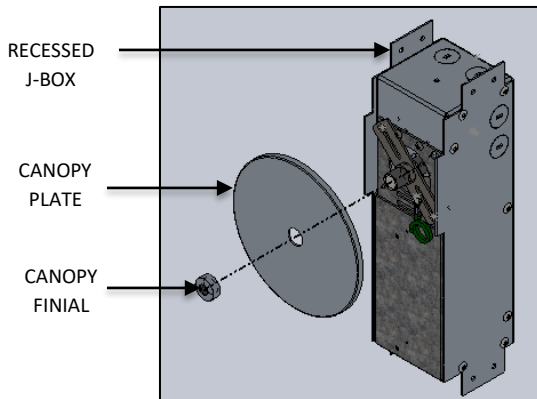

FIG. 5 - FINIAL AND CANOPY DISASSEMBLY
1. Unscrew CANOPY FINIAL and remove the CANOPY PLATE out of J-BOX as shown in FIG. 5.